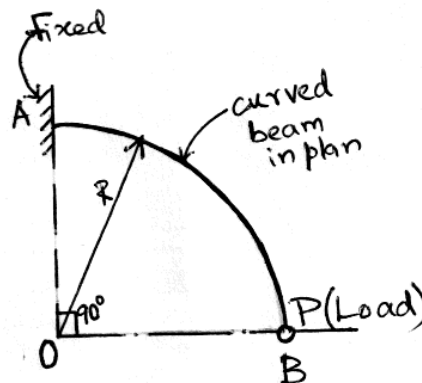

Fig. 16(a)
16. (a) A quarter circular beam of radius 'R' curved in plan is fixed at A and free at B as shown in Figure 16(a). It carries a vertical load P at its free end. Determine the deflection at free end and draw the bending moment and torsional moment diagrams. Assume flexural rigidity (EI) = torsional rigidity (GJ). (15)